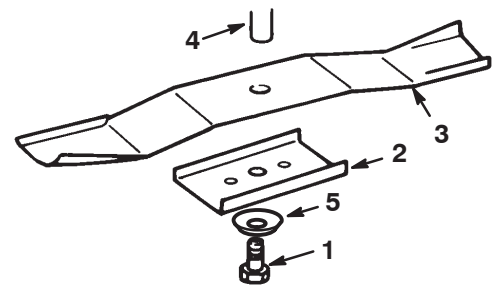

Figure 32
3. Remove the bolt (5/8 in. wrench), curved washer, retainer and blade (Fig. 32). A block of wood may be wedged between the blade and the mower to lock the blade when you are removing the bolt.
1. Install the blade, blade retainer, curved washer (cupped side toward blade), and the blade bolt (Fig. 32).